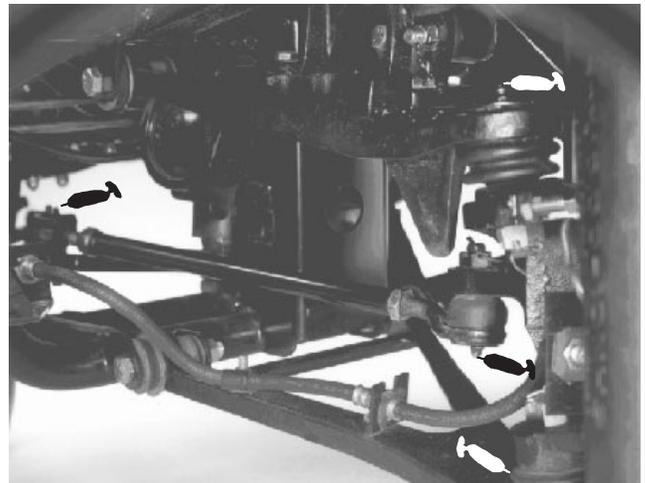

Figure 29
The grease fitting locations and quantities are: Tie rod ends (4) (Fig. 29), Front ball joints (4) (Fig. 29), Rear drive shafts (18) (Fig. 30), Mid drive shaft – 4 wd only (3) (Fig. 31) Pedal Pivots (4) (Fig. 32); Steering shaft (1) (Fig. 33), Front pivot bushings (2) (Fig. 34) and Accelerator arm (1) (Fig. 35).